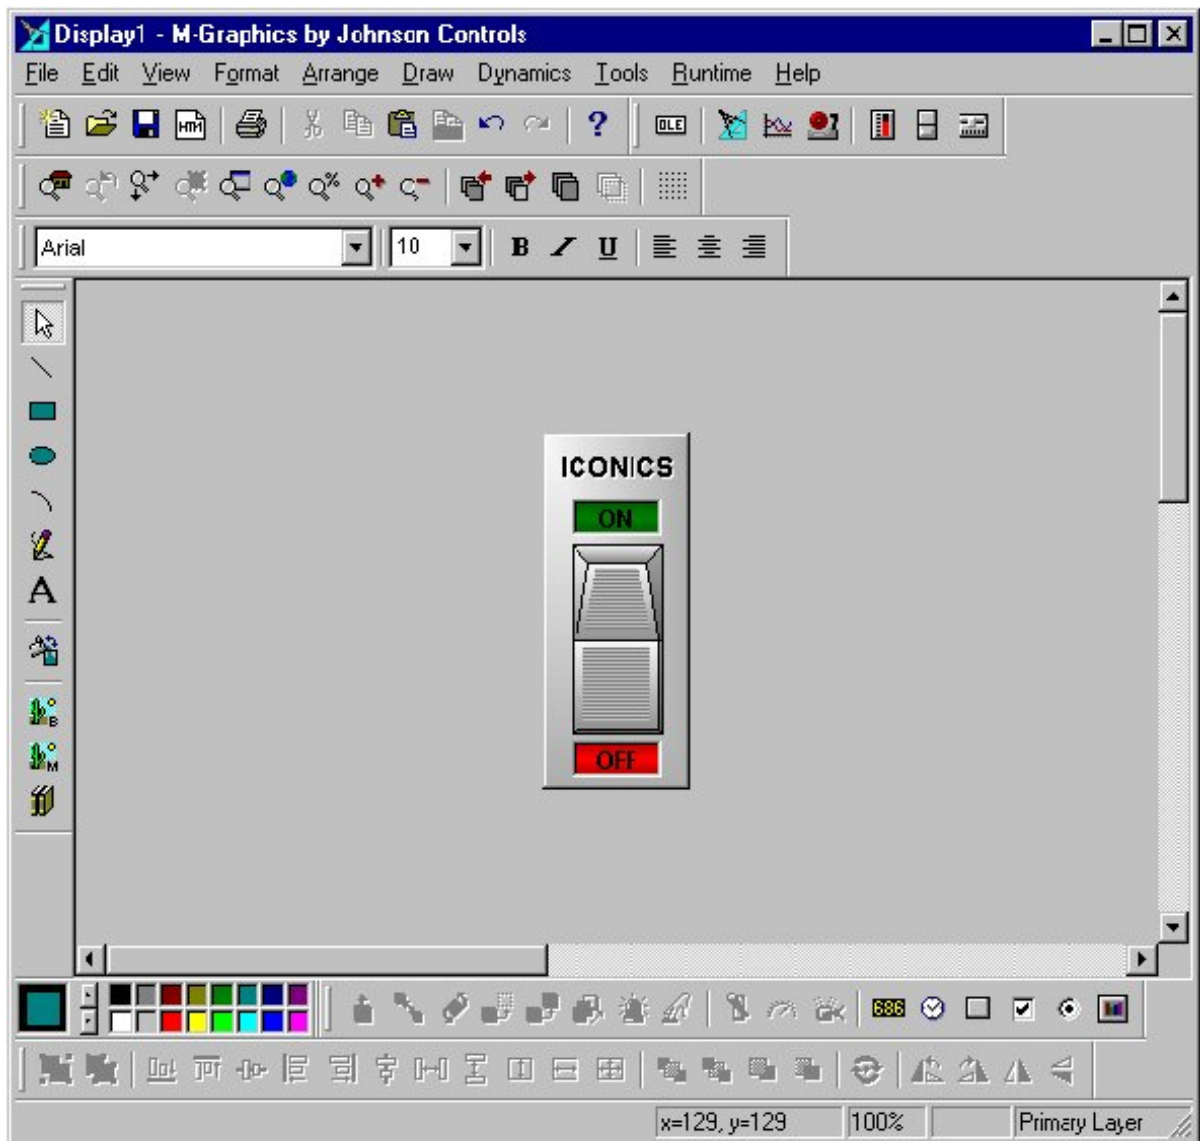

Figure 16-3: GWXSwitch ActiveX in M-Graphics Display
3. Click OK. A GWXSwitch ActiveX control is added to the display (Figure 16-3).